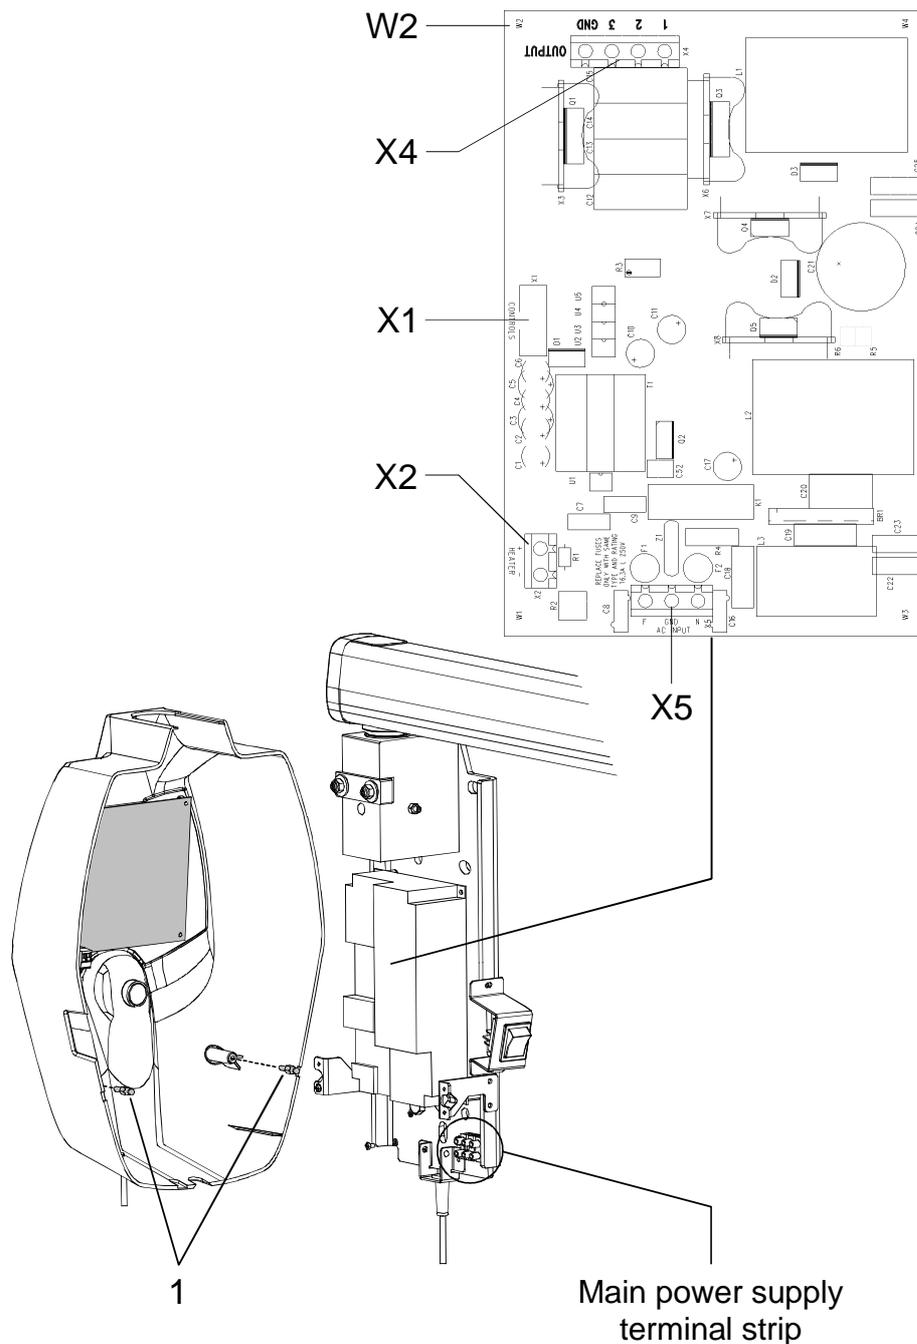
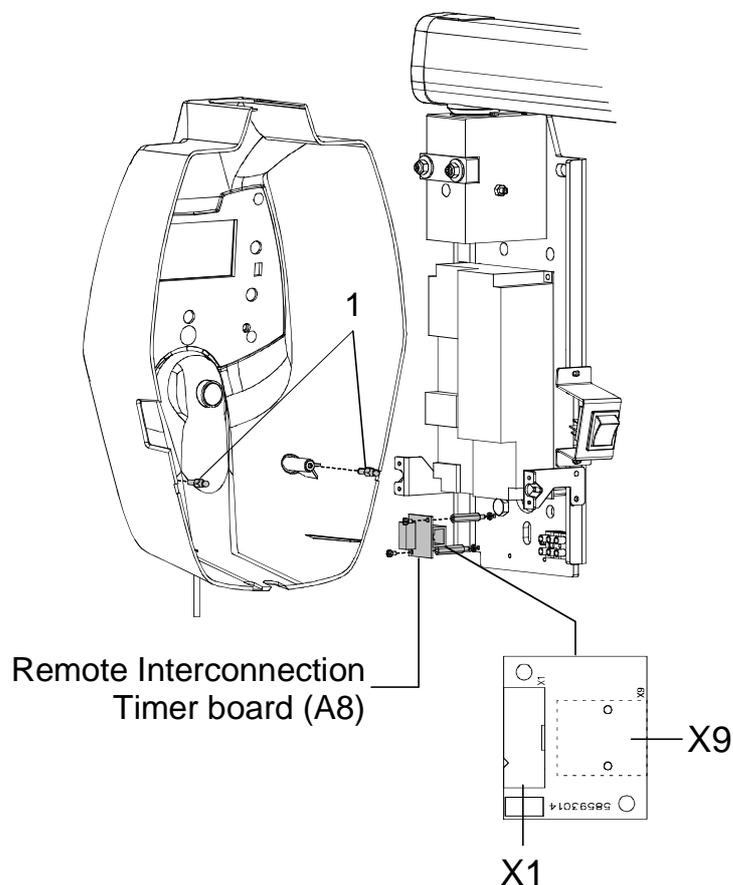

Figure 6-17
Figure 6-18
4. Assemble the two pins lock (1 - Figure 6-17) on the timer cover; these pins (code 2100511300) are included in the mounting hardware packaging.
3. Assemble the Remote Interconnection Timer board (A8), included in the Remote Timer box, on the timer as shown in Figure 6-18.
4. Connect the flat cable, supplied with the Remote Timer box, between Driver board – connector X1 (Figure 6-17) – and A8 board – connector X1 (Figure 6-18).
5. Connect the RJ 45 cable to the A8 board – connector X9 (Figure 6-18).
6. Assemble the two pins lock (**1** - Figure 6-18) on the Remote Timer cover (**1** - Figure 6-16); these pins (code 2100511300) are included in the mounting hardware packaging.